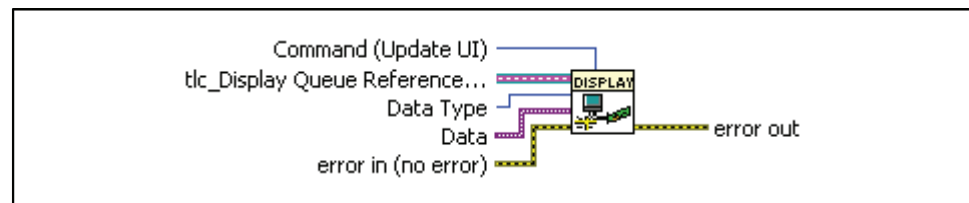

Figure 6-14. Display Module Icon and Connector Pane
5. Examine the connector pane as shown in Figure 6-14.